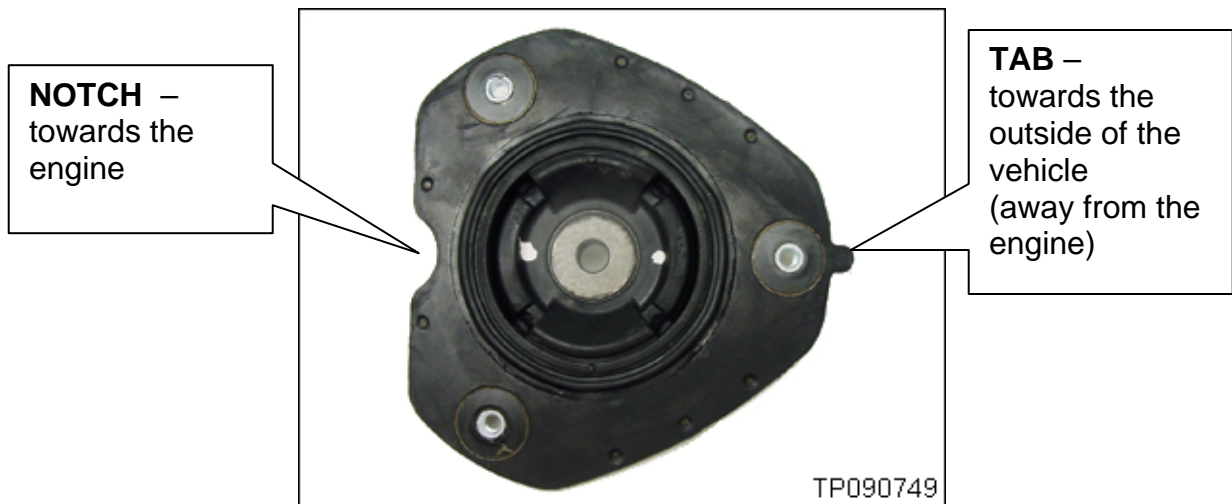

Figure 8
- The new insulator has 2 white dots in the center (see Figure 8).
- Make sure the insulator is positioned correctly, as shown in Figure 8.